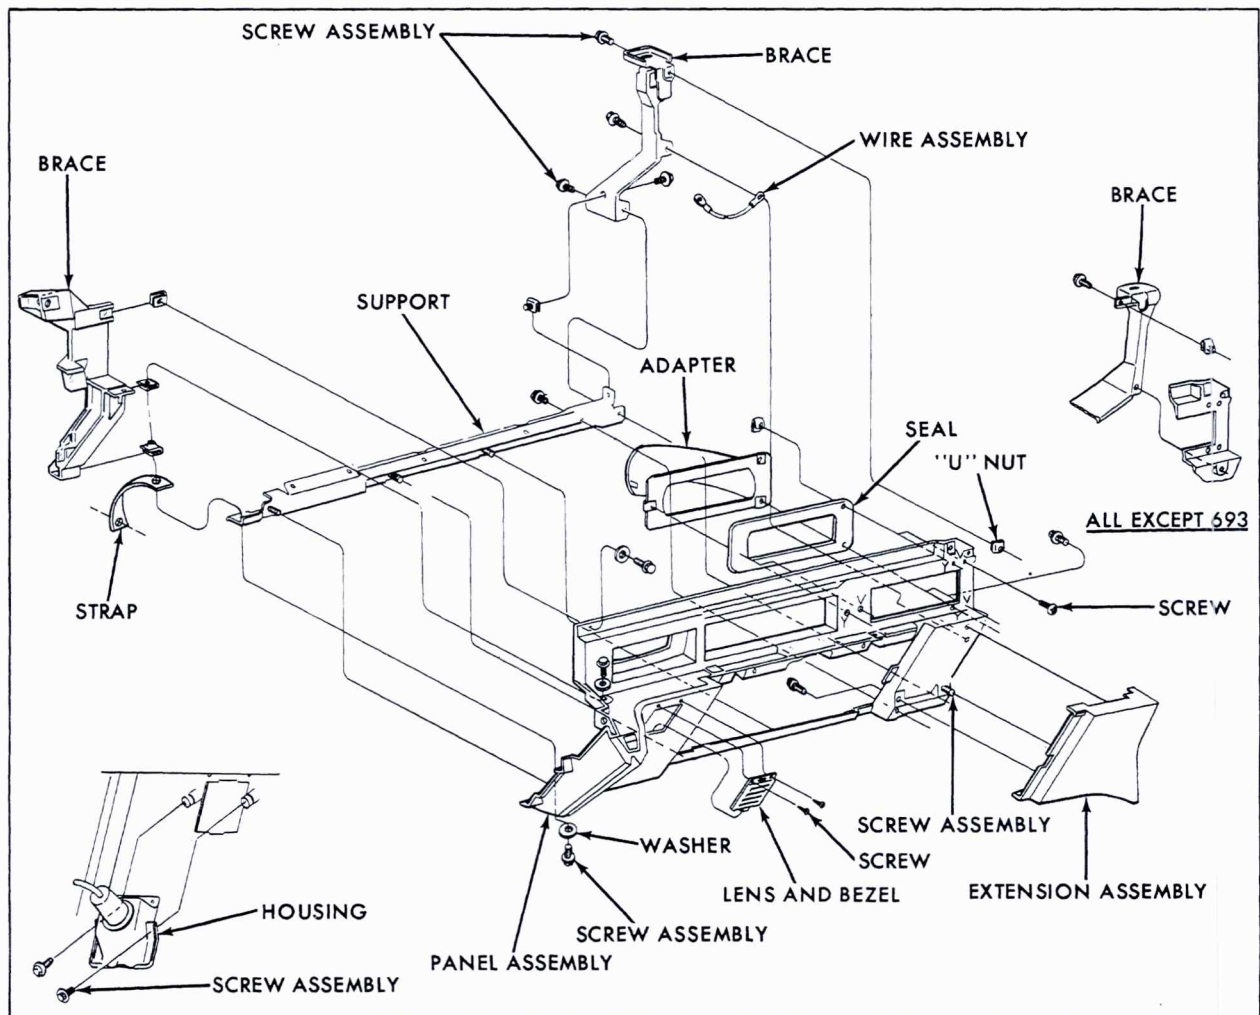

Fig. 12-41 Instrument Panel - (Right Side)
## 51. Instrument Panel—Right Side (Fig. 12-41)
8. Remove the following screws as shown in Fig. 12-41:
2. Install the following screws as shown in Fig. 12-41:
## 52. Instrument Panel Extension— Right Side (Fig. 12-41)